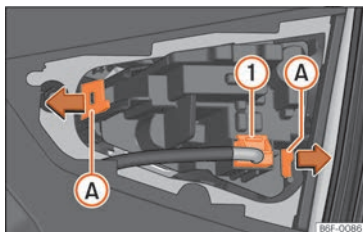

Fig. 174 Remove the bulb holder.
- Remove the bulb connector >>> Fig. 174 ①.
- Remove the bulb holder unlocking the retaining tabs (A).